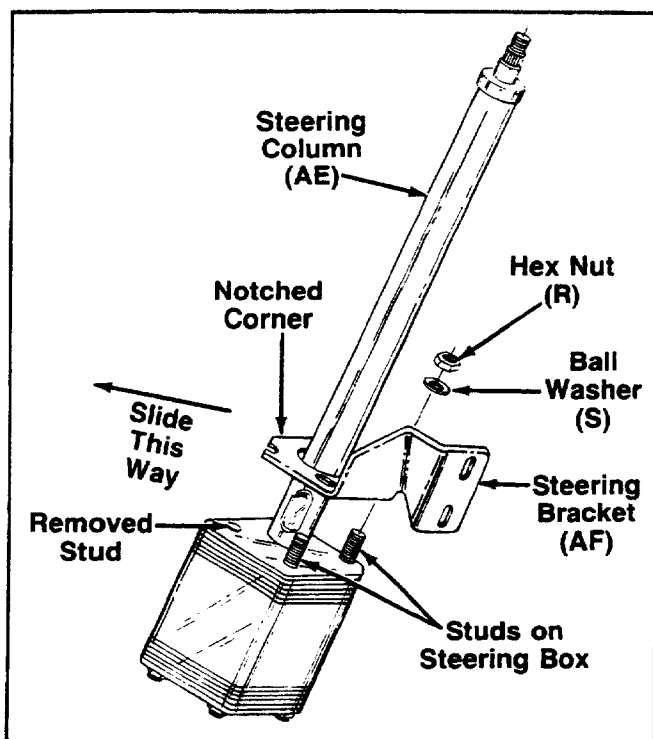

FIGURE 13.
5. Place the new steering mount bracket (AF) over steering column (AE) and position studs on steering box through slots in steering mount bracket. See figure 13.
Steering mount bracket must be moved all the way to the right as shown by an arrow in figure 13; for drive shaft clearance, secure bracket to steering box with three bell washers (S) and hex nuts (R). Tighten securely.